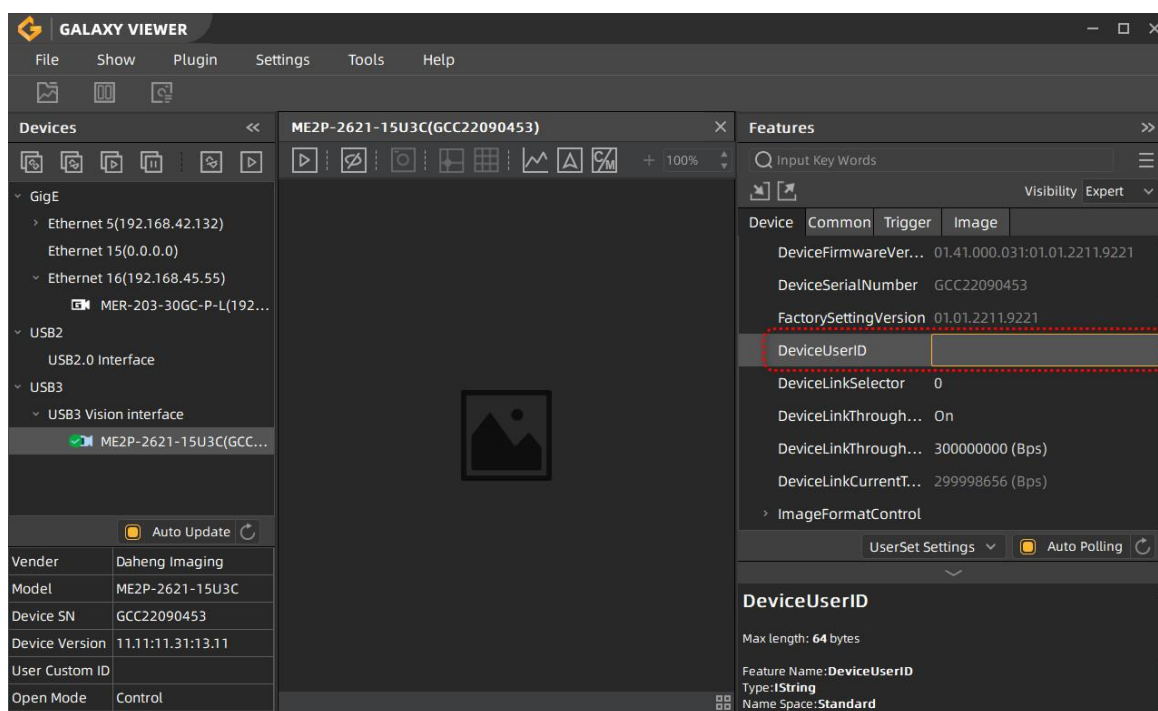

Figure 8-40 GalxyView software
- 1) Set by the GalxyView, as shown in the Figure 8-40.